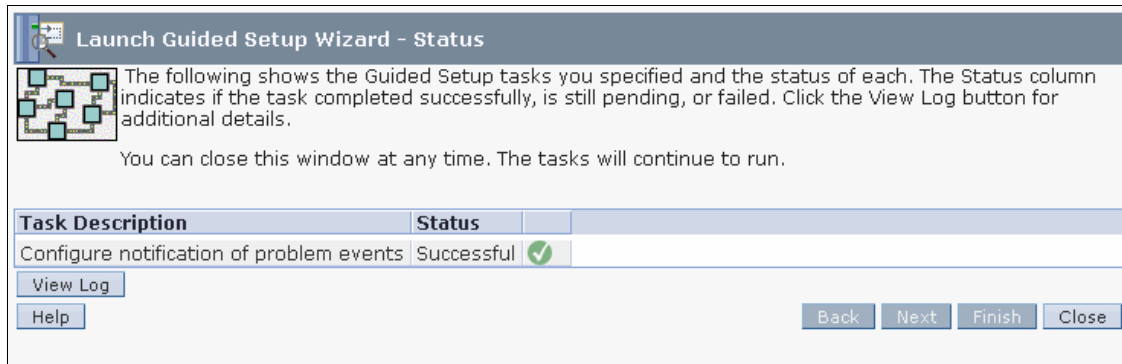

Figure 3-21 Status panel
25. This step completes the second part of the Guide Setup wizard, as shown Figure 3-21. Click **Finish** and **Close** to continue next.